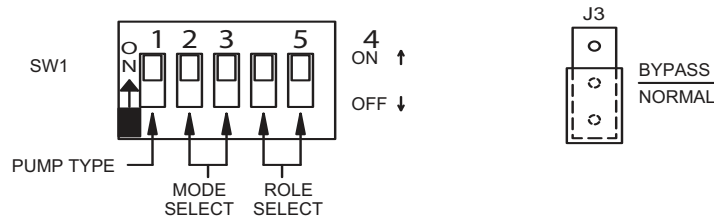

Figure 3. SW1 Switch Setup chart
1. The unit must be calibrated every time the Motor Type programming is performed even if the Motor Type does not change. Set the five DIP switches to the desired pump type and mode / role select configuration (see Figure 3). NOTE: The unit will not calibrate if a Motor Type has not been programmed.